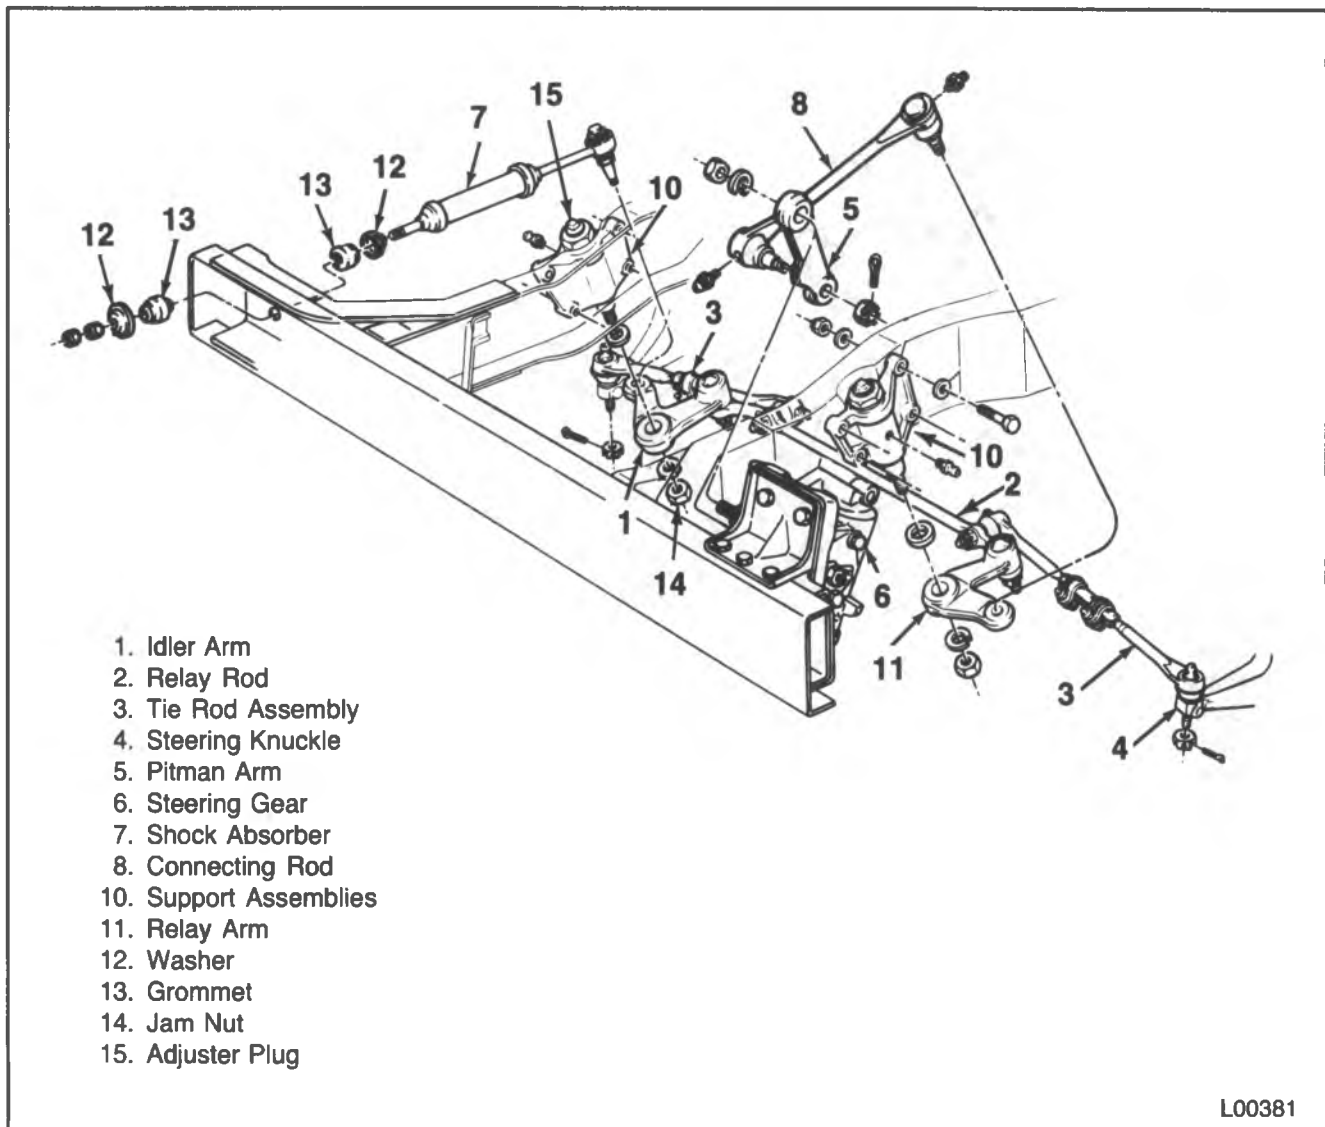

Figure 3 — Steering Linkage — P30 Motorhome
The frame-mounted idler support assemblies (10) (figure 3) are adjustable for support shaft end play. Check for idler arm movement as described in "Idler Arm Inspection." If the idler arm fails this test, adjust the support shaft end play.
Adjust (Figure 3)